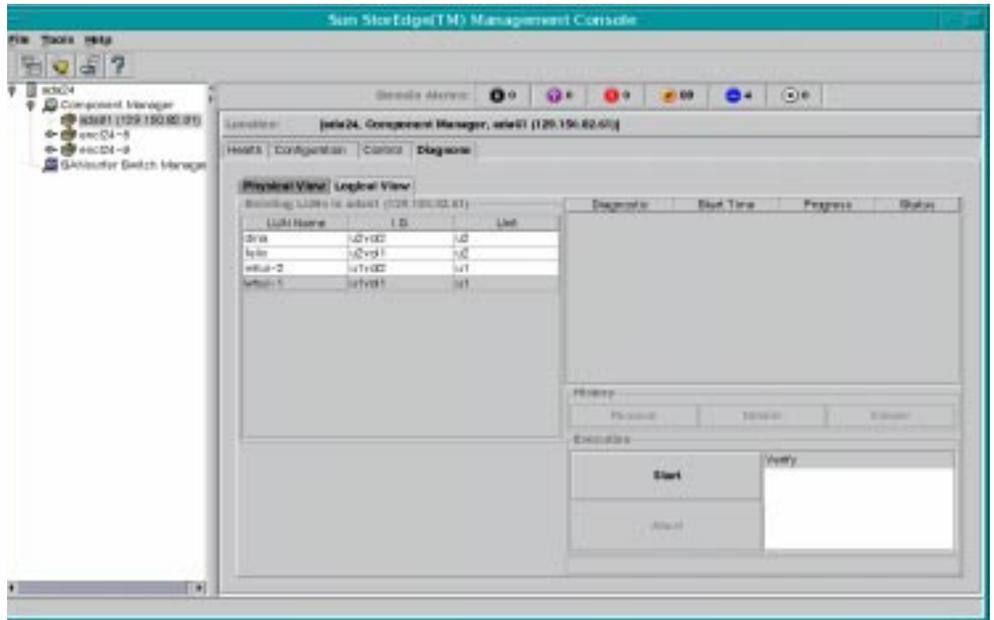

FIGURE 7-8 Diagnose Tab, Sun StorEdge T3 LUN Test Window
4. **Select a LUN in the Existing LUNs list (see in FIGURE 7-8).**